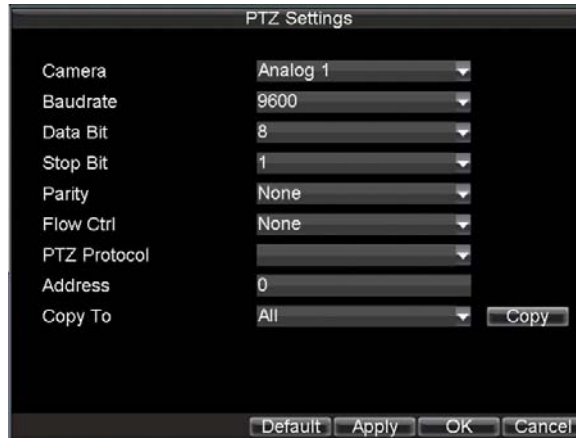

Figure 2. PTZ Settings Menu
1. Click Menu > Settings > PTZ to enter the PTZ Settings menu, shown in Figure 2.